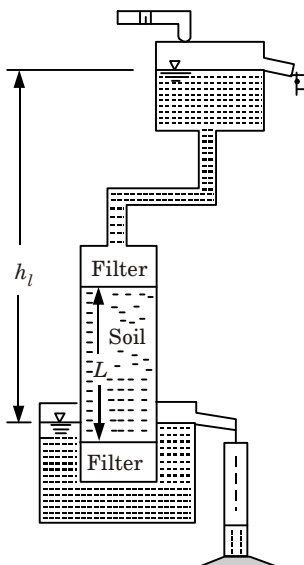

Fig. 2.8.1.
- ii. Fig. 2.8.1 shows the arrangement in which the flow is one-dimensional and in downward direction.